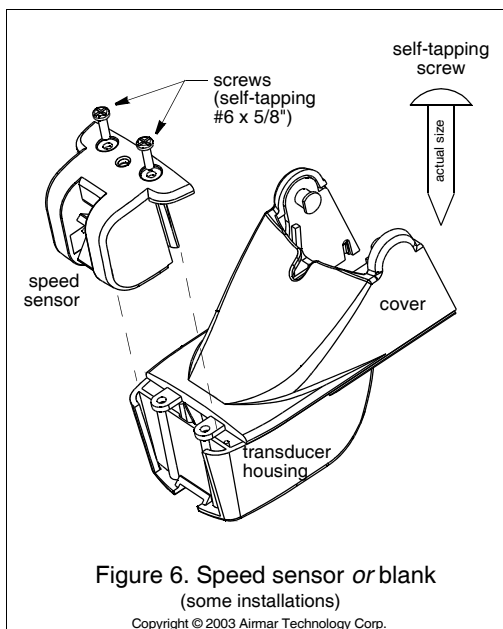

Figure 6. Speed sensor or blank (some installations)
1. Remove the two screws that hold the speed sensor onto the transducer housing (see Figure 6).
5. Insert the side rails of the speed sensor or blank into the channels on the back of the transducer housing (see Figure 6). Slide it downward. Fasten the speed sensor *or* blank in place with the two, #6 x 5/8", self-tapping screws.